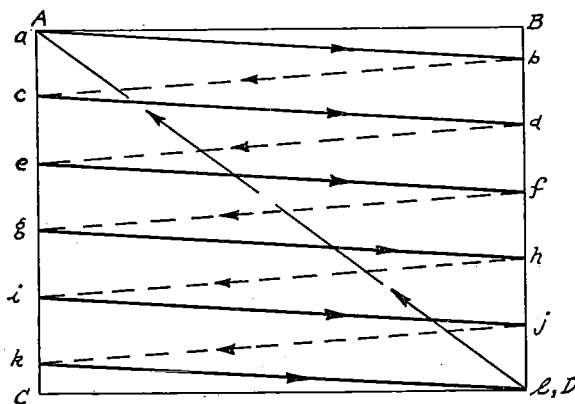

FIG. 13.—A simple progressive scanning pattern in which the picture is scanned in a series of lines which start at the upper left and slope down to the right.
As we have already mentioned, the usual scan is from left to right and from top to bottom. In certain cases this order must be reversed, but the principle is the same. In Fig. 13 is shown a simplified diagram of a scanning pattern; this is often called a "raster." The rectangular diagram formed by the light lines connecting points A, B, C and D represents what we may call the "picture space." The width of this rectangle (AB) is drawn so as to be  $4/3$  times the height (AC); this is the proportion used in motion pictures. The ratio of width to height is called the "picture aspect ratio" and its value of  $4/3$  is one of the proposed RMA television standards. On a picture tube, the heavy lines ab, cd, etc., are caused by the fluorescent glow which occurs as the electron beam moves from point a to point b (in the direction of the arrow on line ab). You will notice that points a and A coincide, while point b is slightly below point B. In fact, *all* the lines in Fig. 13 slant downward. This slant is necessary to provide the *vertical* (top-to-bottom) part of the scanning process. In fact, the left-to-right component of scanning is called "horizontal scanning" or "line scanning"; the top-to-bottom component is called "vertical scanning" (also called "frame scanning" or "field scanning," for reasons which will be clear later on). This slant-line system of scanning is used because the characteristics of the electrical circuits which provide scanning make it impossible to scan in a series of truly horizontal lines, with an abrupt vertical drop at the end of each line.
A complete set of lines such as shown in Fig. 13 is called a "frame." This particular frame is completed when the spot reaches point l; it then returns to point a to start a new frame. A frame like that shown in Fig. 13 is said to be built up by "progressive scanning" (the lines follow each other in a continuous chain). Six complete lines (retraces are not counted) are shown in this figure; a complete technical description of this figure would be: "A six-line frame (or raster) produced by progressive linear scanning." Of course, so few lines as we have shown would be insufficient to give a good picture, and a very great many more are actually used. In order to give the eye the illusion of motion, many complete frames must be
space to begin the second field. During the second field, line 7 is completed and lines 2, 4 and 6 are traced, thus completing the entire seven-line frame in two steps. (As in Fig. 13, the arrows show the direction of travel of the beam spot.) The use of an odd number of lines has been found advantageous in interlaced scanning; this method is called "odd-line interlacing." American practice calls for 220.5 lines in each field, making 441 total lines per frame. Sixty fields are transmitted each second, giving a field frequency of 60 per second.